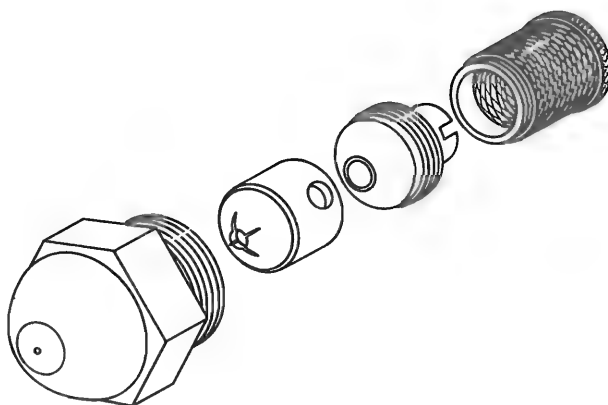

Figure 10-6. Spray Nozzle
- a. Connect heater for testing. (See figure 10-6.)